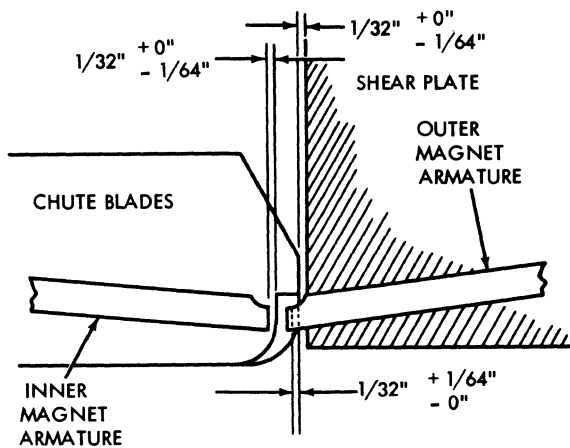

Figure 3-38. Chute Blade, Top View
2. Adjust chute blades, with chute blade mounting screw, for  $1/32'' \pm 1/64''$  clearance between end of lower chute blade and lower card guide plate. See Figure 3-38.